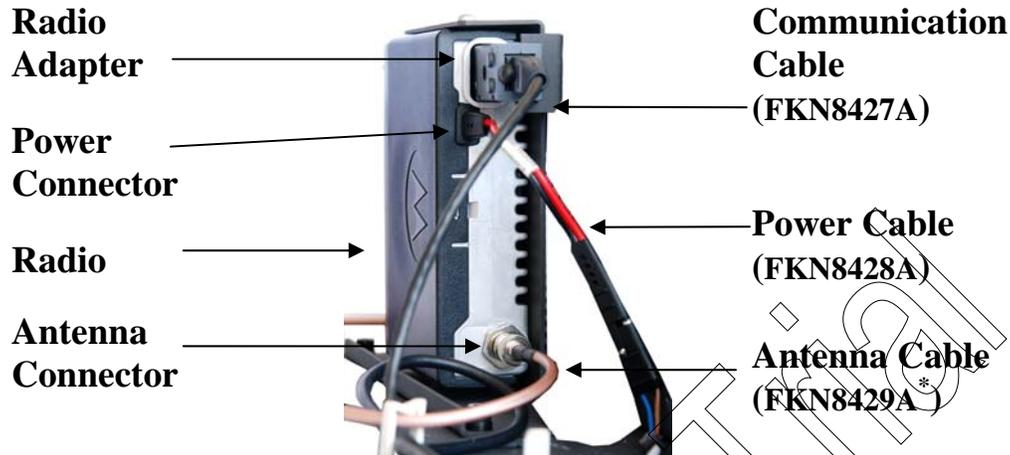
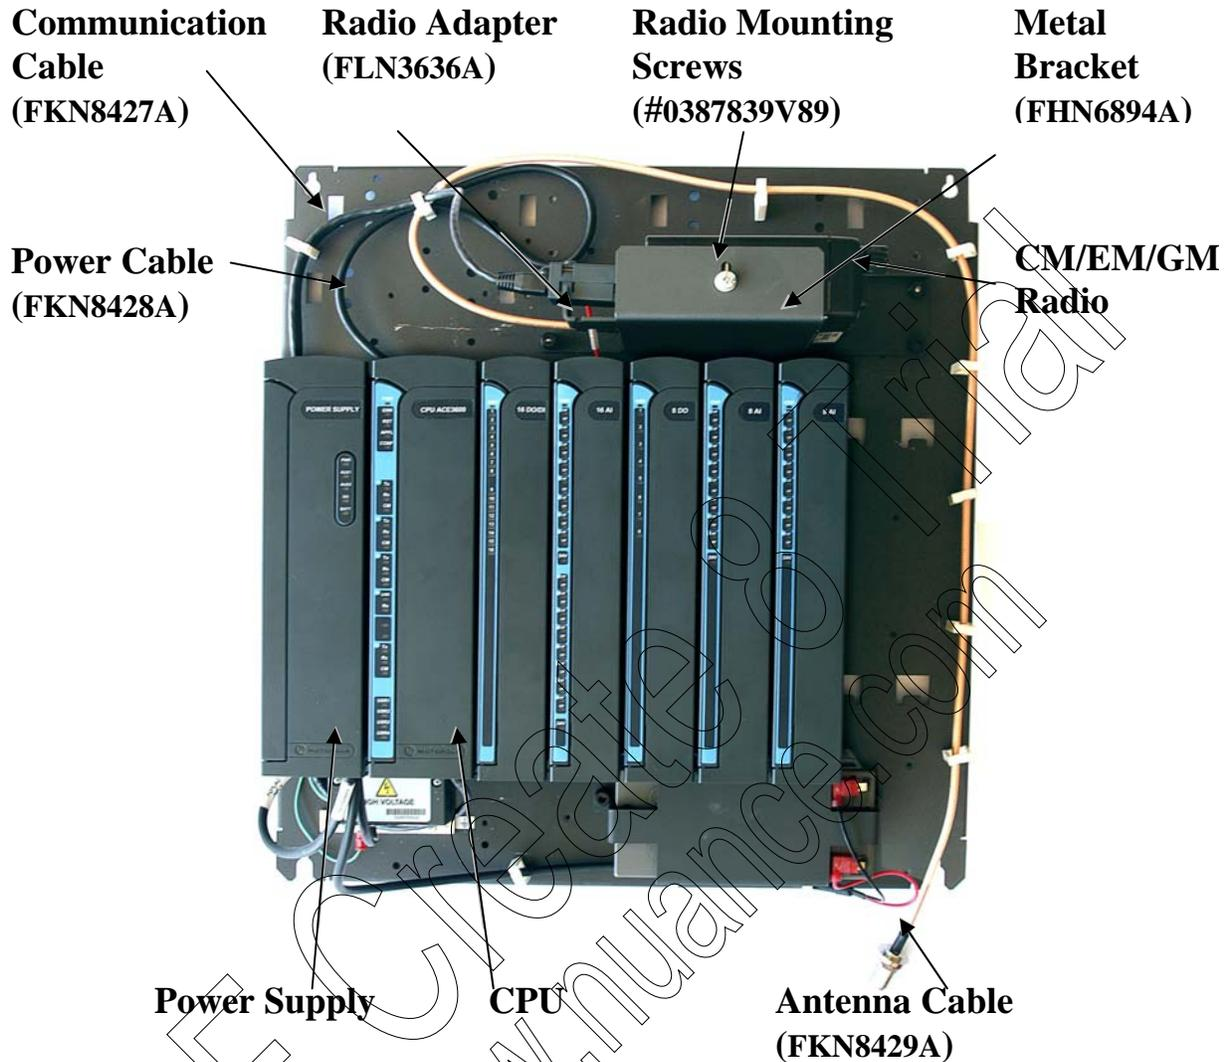

Figure 21-34 CM/EM/GM Radio Cable Connections
Figure 21-35 CM/EM/GM Radio Installed on ACE3600 Chassis
3. Connect the power cable (FKN8428A) to the radio's power connector. (See Figure 21-33 and Figure 21-34.) Connect the other end of the power cable to the AUX1A or AUX1B connector on the ACE3600 RTU Power Supply unit. (See Figure 21-35.)
4. Connect the communication cable (FKN8427A) to the back of the radio adapter (FLN3636A) connector (10-pin RJ45 connector). (See Figure 21-34.) Place one Fair-Rite soft ferrite (#7683477X01 from the supplied ferrite kit PHN7007A) on the cable near the bottom of the CPU door, loop the cable one turn around it, and clamp the ferrite on the cable. Connect the other end of the communication cable to the plug-in port of the ACE3600 CPU.
5. Mount the CM/EM/GM radio onto the metal bracket (#0789422V45) using the two supplied radio mounting screws from kit FHN6894A, # 0387839V89 on the top and bottom of the radio. (See Figure 21-33, Figure 21-34 and Figure 21-35.)
6. Connect the antenna cable (FKN8429A*) to the antenna connector on the radio and to the opening on the bottom of the ACE3600 housing using the four supplied screws. (See Figure 21-34 and Figure 21-35.) Mount the complex (bracket and radio) on the RTU chassis above the CPU and I/O modules, using the four built-in screws. (See Figure 21-35.)